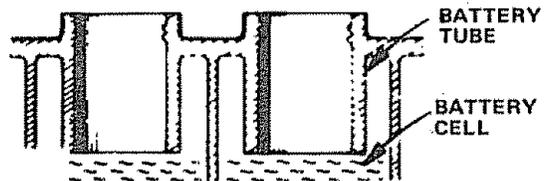

FIGURE 39
- Electrolyte solution level in each Battery Cell should be even with bottoms of tubes in cells (Fig. 39). Add distilled water if necessary. NOTE: DO NOT OVERFILL.